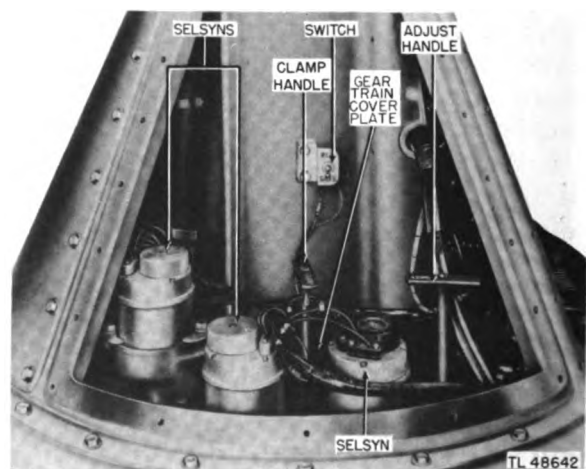

Figure 4-61. Pedestal selsyn compartment.
(2) Throw the RUN-SAFE switch to the SAFE position.
(3) Do not change the positions of the CLAMP handle and the ADJUST handle.
b. Maintenance Procedure (fig. 4-61).
(1) The selsyns for loose mounting clamps. If necessary, tighten the bolts that fasten the clamps in place. Examine for dirt, corrosion, and loose terminal connections. Remove the screws fastening the three slip-ring covers. Inspect for improper brush tension, for dirt and corrosion of brushes and slip rings, and for loose connections (par. 2-18). Replace the slip-ring covers.
(2) All wiring for frayed or rotting insulation and for broken binding tape. Examine the cable clamps for loose mounting and poor clamping (par. 2-8).
(3) The terminal boards for loose mounting, poor connections, and corroded parts. Check for dirt and dust (par. 2-8).
(4) The toggle switch for faulty operation. Examine the connections for looseness and corrosion (par. 2-14).
(5) The interior of the selsyn compart-